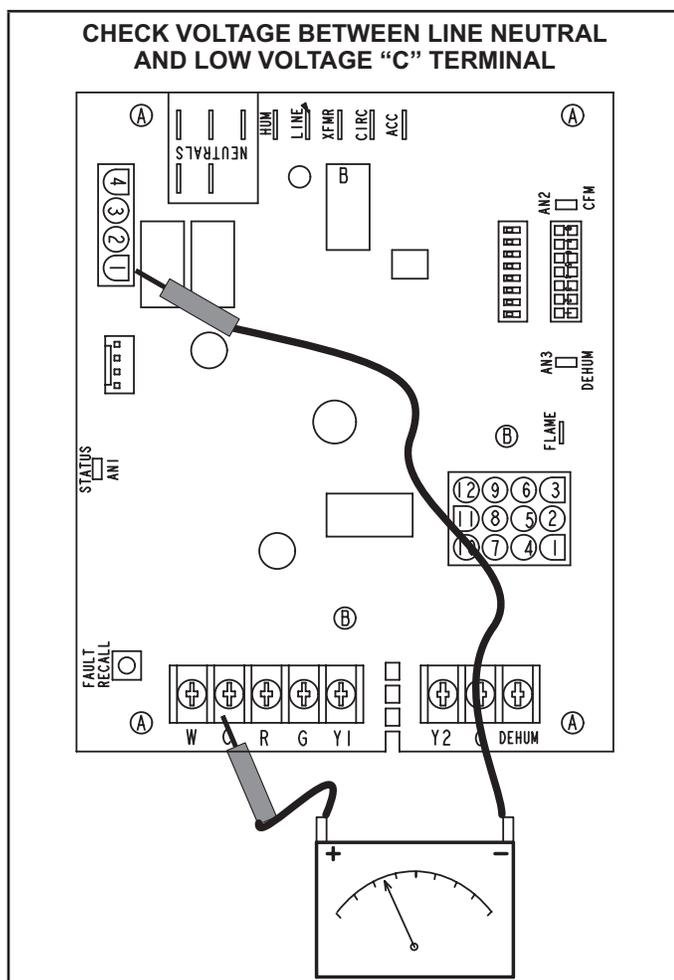

FIGURE 19
- 1 - Measure the AC voltage between Line Neutral (spade terminals) and "C" terminal (low voltage terminal block) on the integrated control. See FIGURE 19. A wide variation in the voltage between Line Neutral and "C" as a function of load indicates a poor or partial ground. Compare the readings to the table below. If the readings exceed the maximum shown in TABLE 14, make repairs before operating the furnace